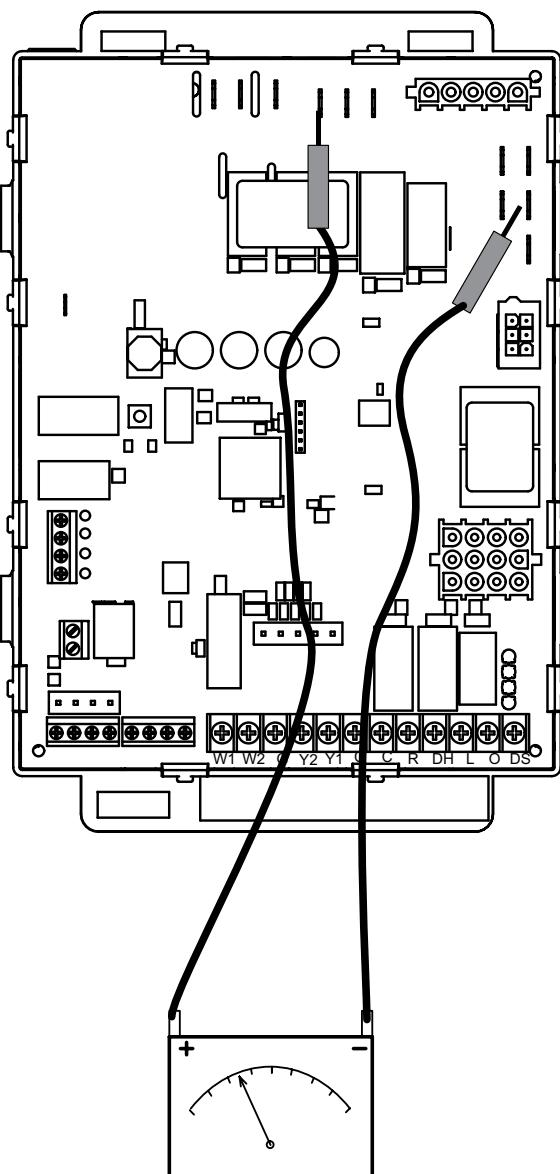

Figure 53.
1. Measure the AC voltage between Line Neutral (spade terminals) and "C" terminal (low voltage terminal block) on the integrated control. See Figure 53. A wide variation in the voltage between Line Neutral and "C" as a function of load indicates a poor or partial ground. Compare the readings to Table 26. If the readings exceed the maximum shown in Table 26, make repairs before operating the furnace.
2. In addition, measure the AC voltage from Line Hot to Line Neutral (spade terminals) on the integrated control. See Figure 53. This voltage should be in the range of 97 to 132 VAC